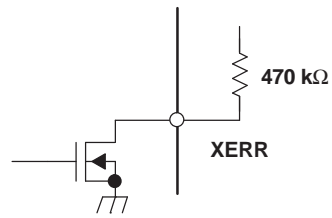

Figure 6. Test Circuit for  $t_{pd4}$
- (6) See Figure 5, Figure 6, and Figure 16